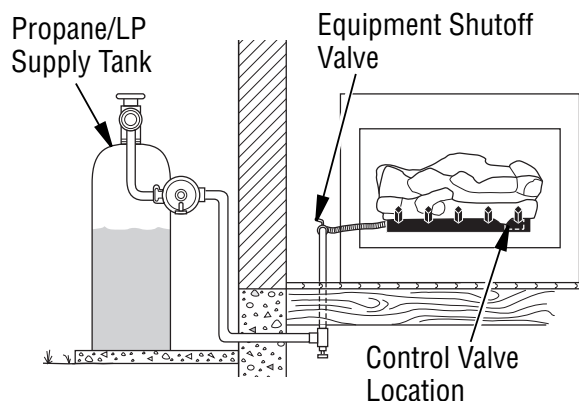
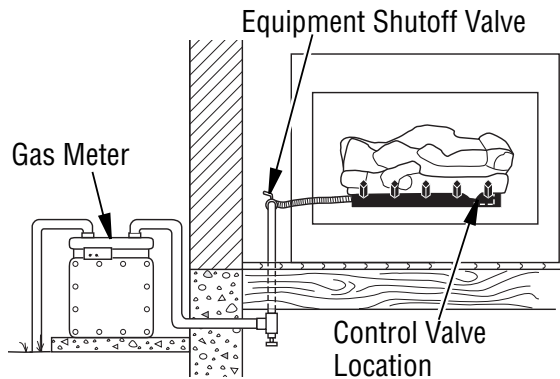

Figure 16 - Checking Gas Joints (Propane/LP Only)
Figure 17 - Checking Gas Joints (Natural Gas Only)
3. Check all joints from gas meter to equipment shutoff valve for natural gas or propane/LP supply to equipment shutoff valve for propane/LP (see *Figure 16* or *Figure 17*, Page 16). Apply noncorrosive leak detection fluid to all joints. Bubbles forming show a leak.
4. Check all joints from gas meter to equipment shutoff valve for natural gas or propane/LP supply to equipment shutoff valve for propane/LP (see Figure 16, Page 15 or Figure 17, Page 16). Apply noncorrosive leak detection fluid to all joints. Bubbles forming show a leak.